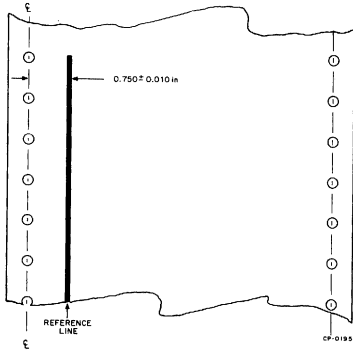

Figure 5-7 Checking Left Margin
- 2. Prepare a length of paper from the LA30 paper supply by drawing in a reference line in pencil or ink 0.0750 ± 0.010 inches in from the left hand sprocket hole center line. (Figure 5-7)*